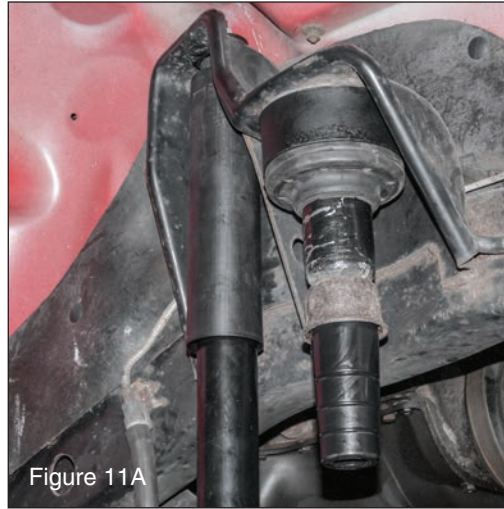

Figure 11A
*Re-attach original bump stop assembly using the original bolt, 15mm socket with ratchet extension and tighten. (FIG 11A)*